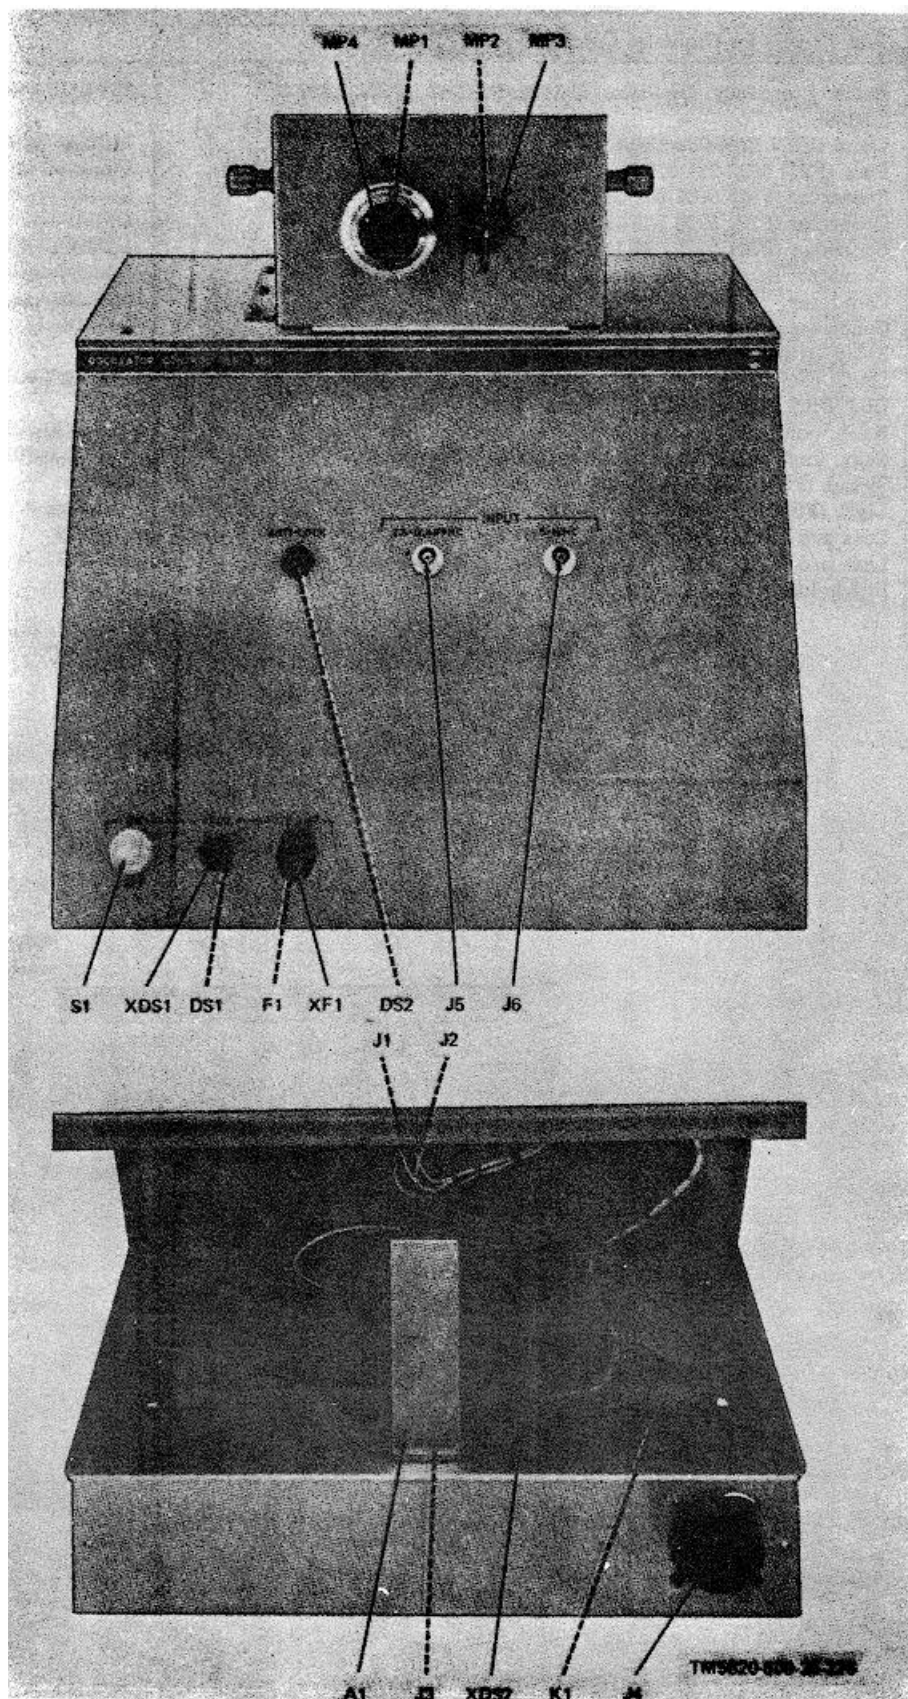

Figure 6-27. Test Fixture for oscillator Control C-4311/PRC-47, Parts Location.
(4) ANTI-LOCX lamp. This lamp is lit when the anti-lock dc output from the module under test is present.
(5) Coaxial connectors are provided for the connection of signal leads and test equipment and these are self-explanatory.
c. The piece parts required for fabrication of the test fissure are listed in the following chart and suggested parts placement is shown in figure 6-27. Schematic diagram (fig. 7-20) illustrates the internal circuit of the test fixture.